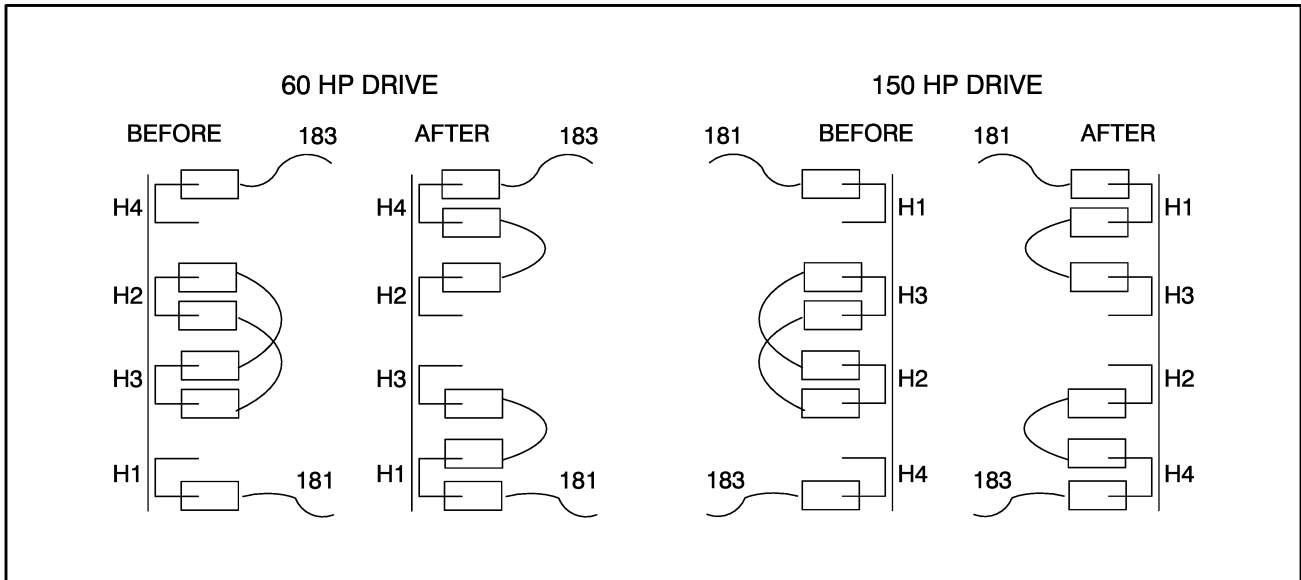

Figure 2 - Control Transformer (CCT) Primary Terminal Connections.
Step 5. Disconnect the jumpers on the control transformer (CCT) primary terminal connections, H2 and H3. For 3-60 HP drives, access to the CCT is on the left side of the drive chassis, near the top. For 75-150 HP drives, access is on the right side of the auxiliary chassis, near the middle. Use the jumpers you just removed to connect terminal H1 to terminal H3 and terminal H2 to terminal H4. Refer to Figure 2, which shows the control transformer primary terminal connections before and after moving the existing jumpers.